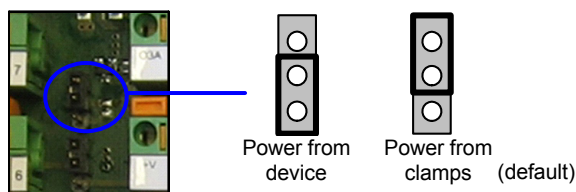

Figure 6–Power Source Jumper Settings
- Connect the Network Cable Shield (Shield) to Filtered Earth through the jumper (default setting, see Figure 6).
To power CBX800 from the reading device, the power source jumper must be placed in the "power from device" position as indicated in Figure 6.